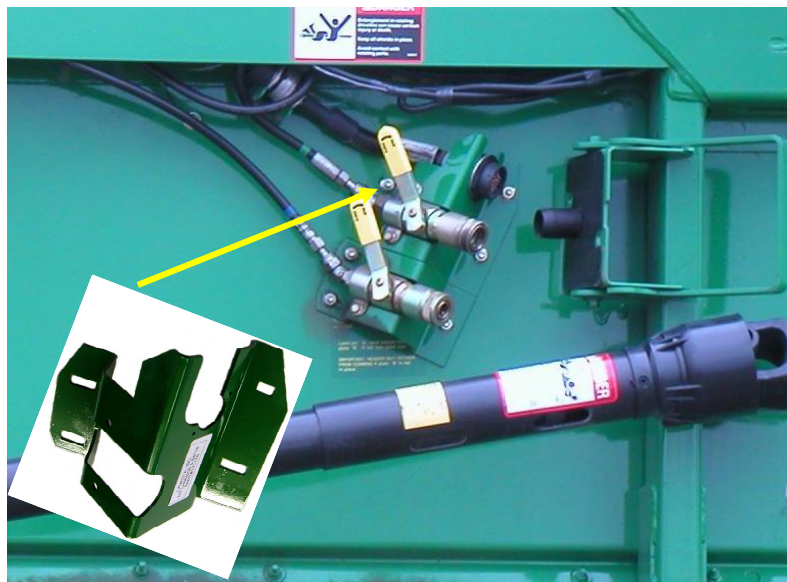

Figure 6
2. Position left Bracket (LAN – 172176) as shown with a slight angle alignment. (See **Figure 6**)